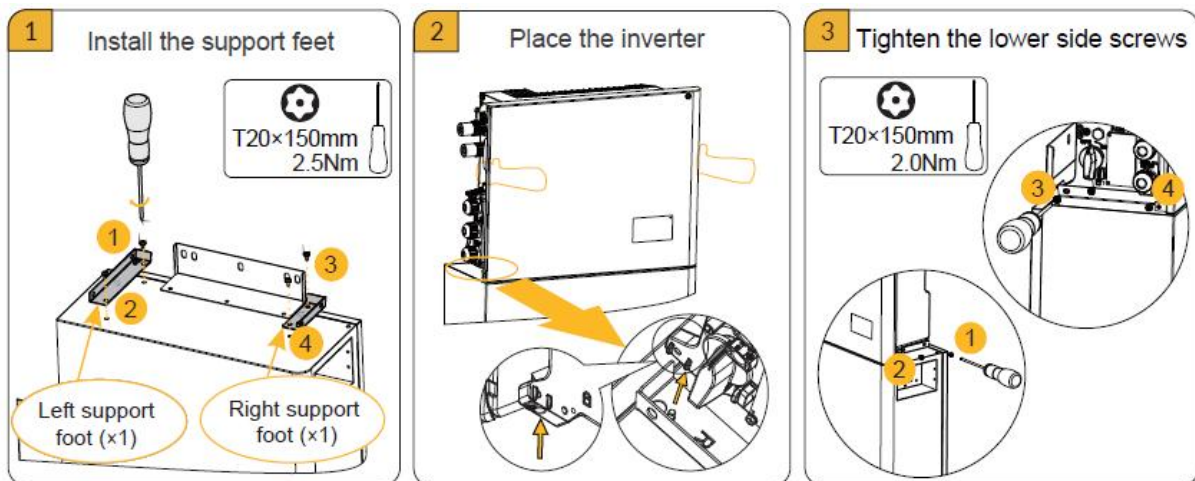

Figure 5-5 Inverter installation diagram
20. Mount the left support foot and right support foot onto the top of the upper battery. Refer to 1 in Figure 5-5.
Ensure the lower right and left holes on the bottom of the inverter align to and insert into the respective guides in the support feet. Refer to 2 in Figure 5-5.
22. Attach the inverter to the side support feet. The inverter mounting holes should align to the horizontal holes of the side support feet. Note that the inverter sits inside (between) the two feet and is secured with two screws on the left and right sides. Refer to 3 in Figure 5-5.